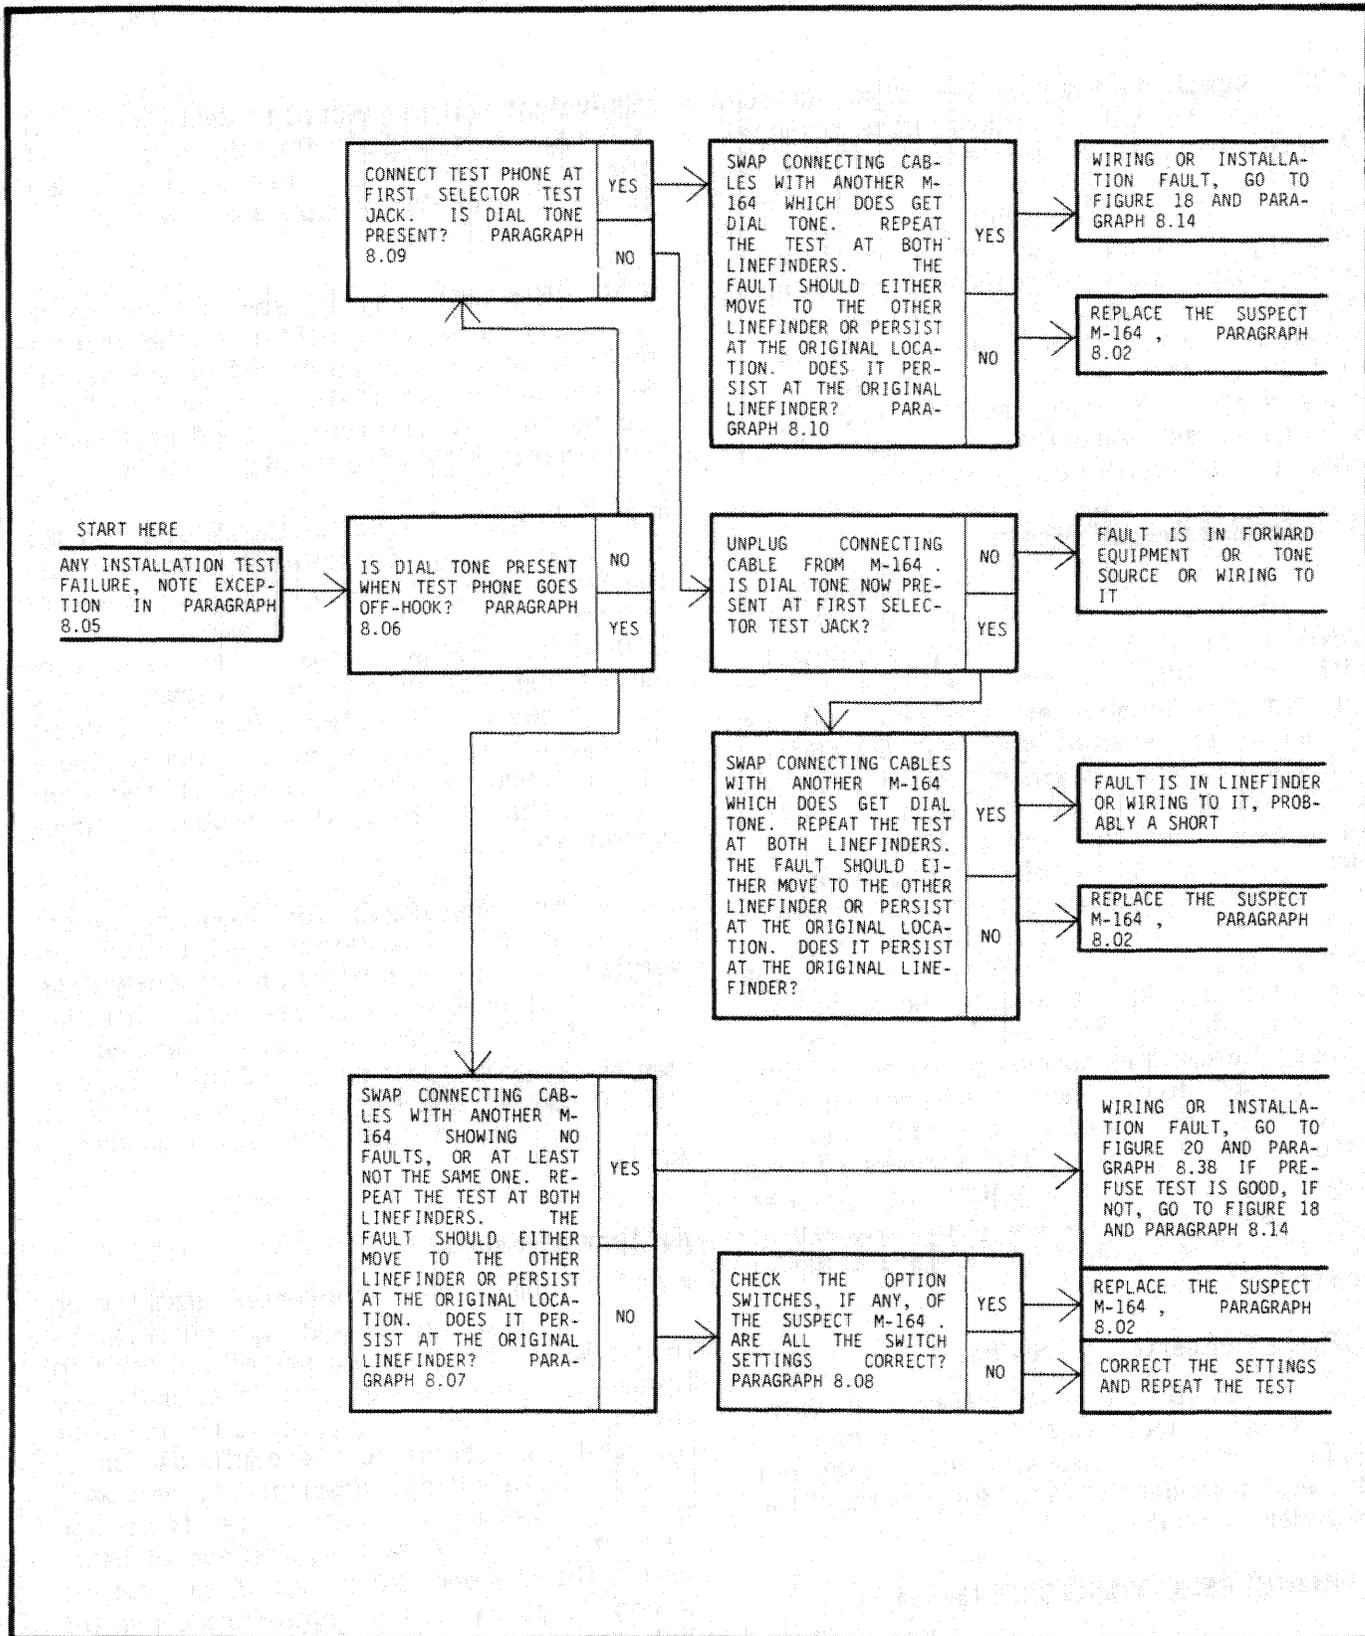

Figure 17 Troubleshooting Procedure
8.04 The procedures for isolating faults depend on whether the unit is in service and had been operating properly or is a unit that does not pass its initial installation tests. If the unit has been in service and operating, proceed as described in the following paragraphs and figure 17. If the problem is with an initial installation, go to paragraph 8.14.
linefinder's test jack, or an equivalent test point, is taken off-hook. If dial tone is not present check the first selector as suggested in figure 17 and paragraph 8.09. If dial tone is present then continue the installation tests until a failure occurs. Then swap connecting cables with another M-164 that does not fail its installation tests. To disconnect the miniature rectangular cable connectors, pry downward with a screwdriver blade slipped between the housing and one of the ears on the ends of the connectors.
8.38 The following paragraphs describe a troubleshooting procedure for installation test failures other than the pre-fuse test. When known-good units are available the procedure described in paragraphs 8.05 through 8.07 and figure 17 should be done first. That procedure will isolate M-164 faults more efficiently than the following procedure.